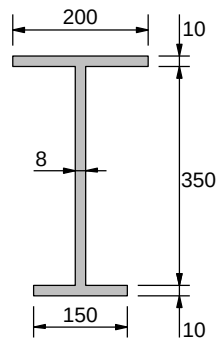

Figure Q5a
5. a. Consider the beam cross-section shown in Figure Q5a (all dimensions are in mm).